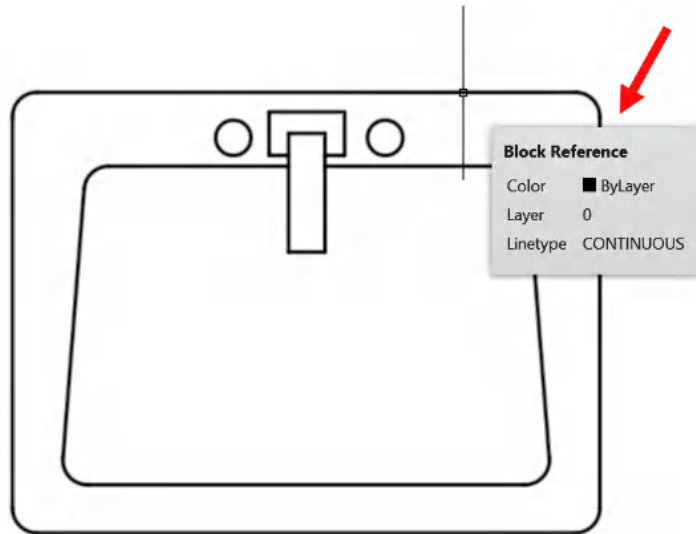

Figure 12.9: The finished Washbasin\_TOP block
5. Hover over the new block to check that the tooltip displays **Block Reference**, as shown in Figure 12.9. If it does, you have created your Washbasin\_TOP regular block.